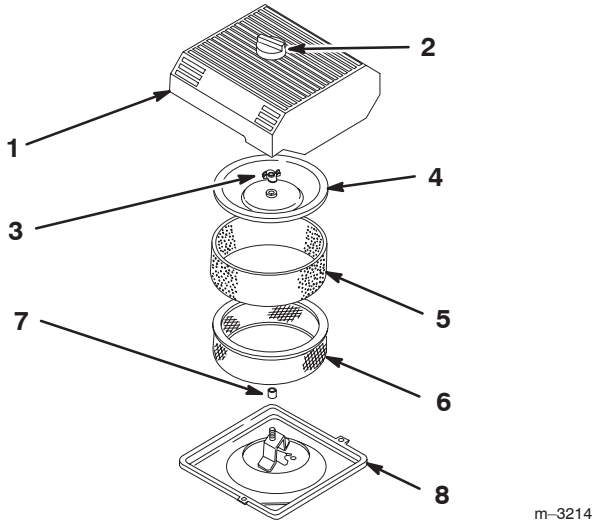

Figure 28
3. Clean around the air cleaner to prevent dirt from getting into the engine and causing damage (Fig. 28).
4. Loosen the knob on the air cleaner cover and remove the cover (Fig. 28).
5. Carefully slide the foam element off the paper element (Fig. 28).
6. Unscrew the cover nut and remove the cover and paper element (Fig. 28).
1. Carefully slide the foam element onto the paper air cleaner element (Fig. 28).
3. Install the cover nut finger-tight against the cover (Fig. 28).
4. Install the air cleaner cover and knob (Fig. 28).